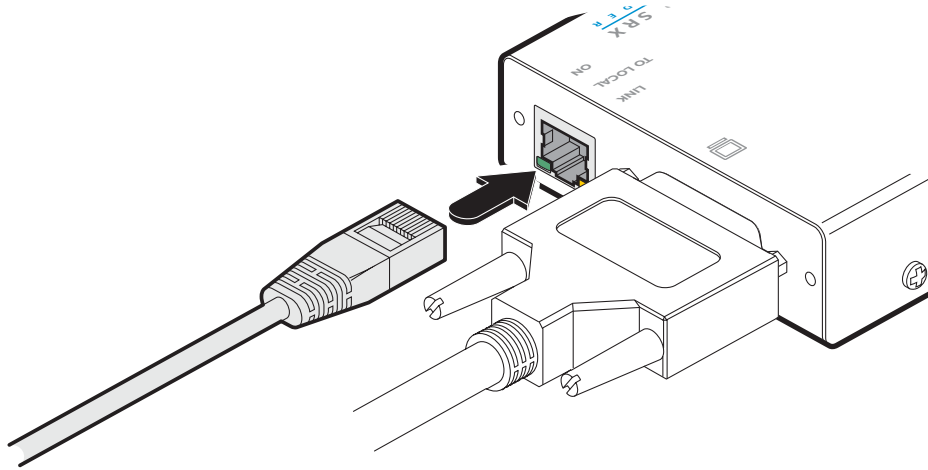

Figure 3-17. Attaching the CATx link cable
- 1 Connect the link cable (see Overview page for cable advice) to the remote module socket labeled **TO LOCAL** as shown in Figure 3-17: